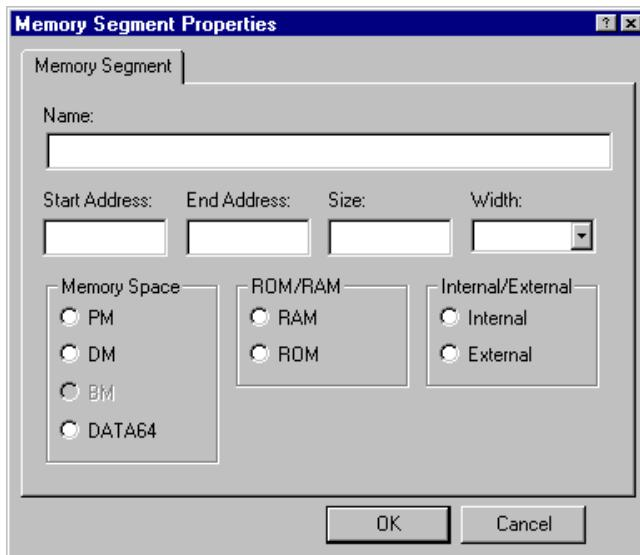

Figure 4-26. Memory Segment Properties Dialog Box
2. Choose **New** and then choose **Memory Segment**. The **Memory Segment Properties** dialog box appears (Figure 4-26).